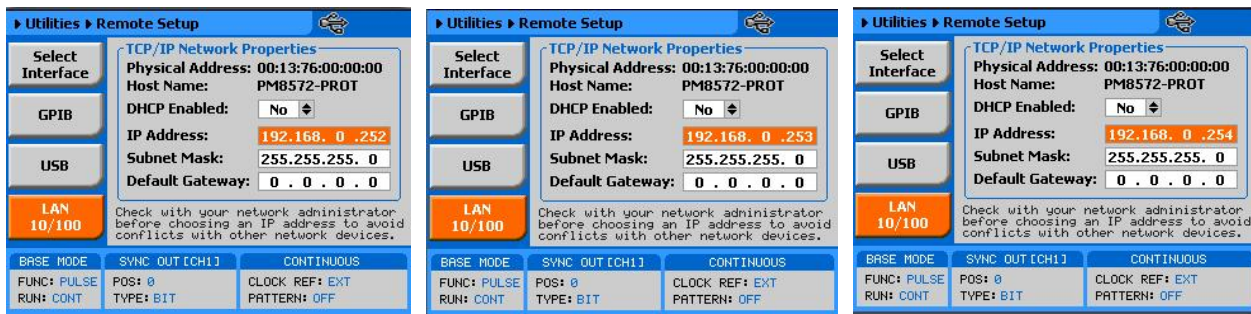

Figure 4-30, IP Address Setup Example (from left to right) Master and two Slaves
4. Turn on the instruments and set all of them up to operate from a LAN interface. Information how to set up the PM8572 to operate from a LAN interface is given in Chapter 2. An example of mater and slave IP address setting is shown in Figure 4-30. The master was assigned the highest IP address ...252 and the two slaves were assigned ...246 and ...245, respectively.